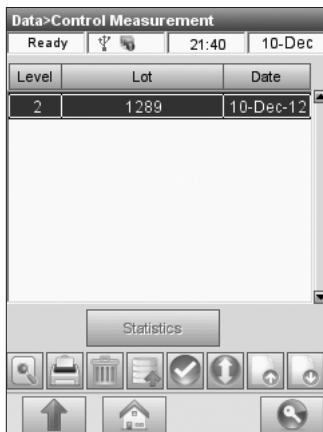

Fig. 6-11 Controls Measurement
3. In the **<Data - Control Measurement>** screen (Fig. 6-11), select a measurement and press the **<View>** button  to display the measurement results (Fig. 6-12).
5. To print individual results, highlight the desired measurement (Fig. 6-11).